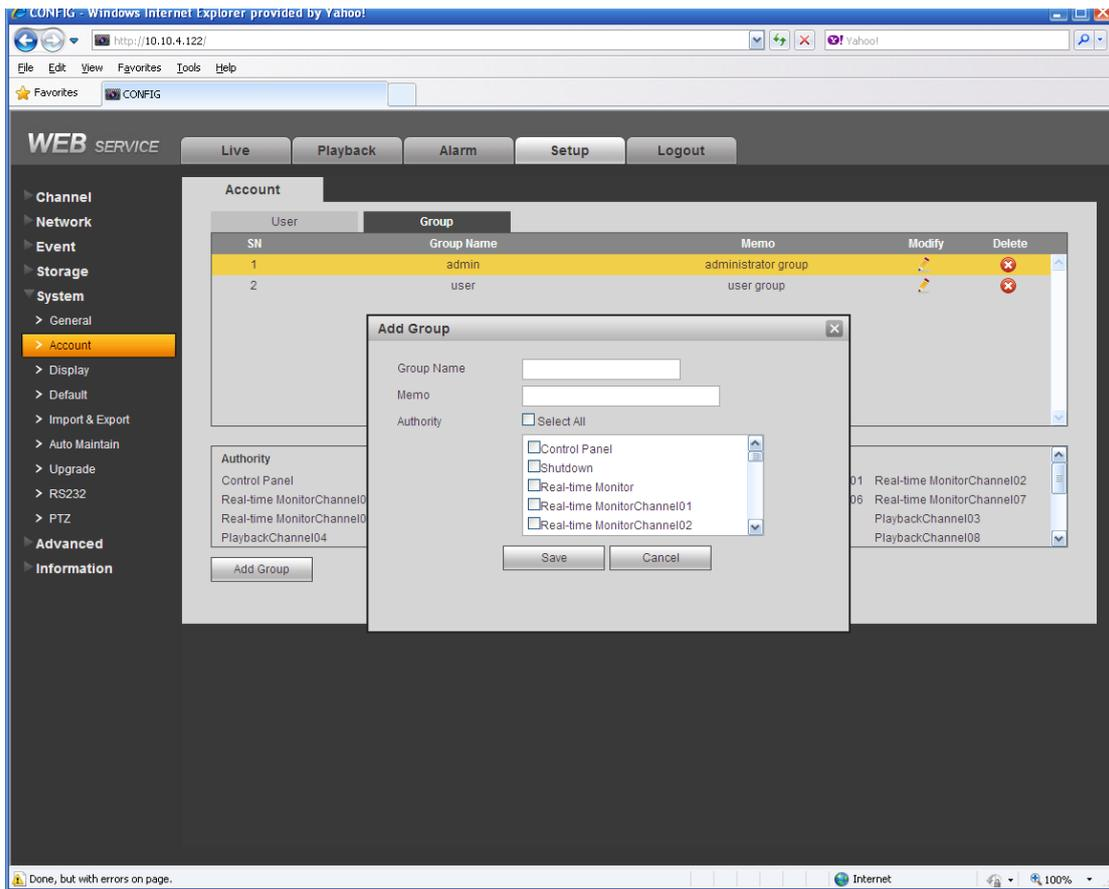

Figure 7-71
**Add group:** It is to add group and set its corresponding rights. See Figure 7-71. Please input the group name and then check the box to select the corresponding rights. It includes: shutdown/reboot device, live view, record control, PTZ control and etc.